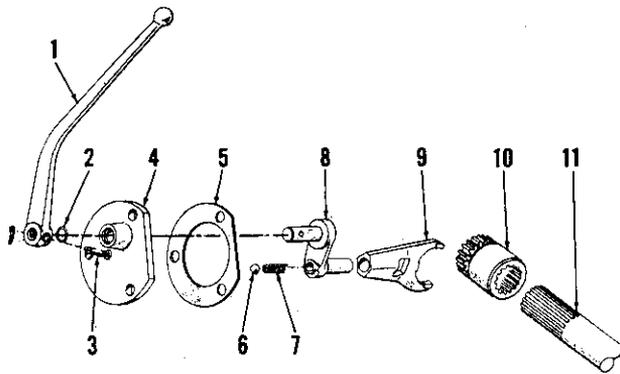
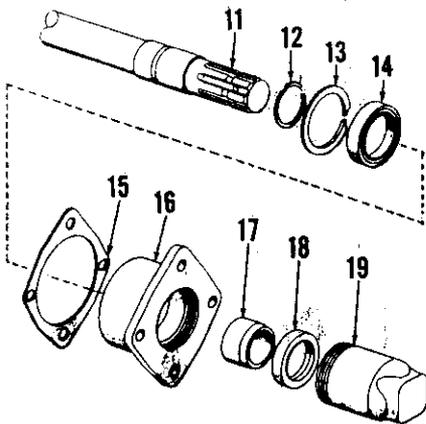
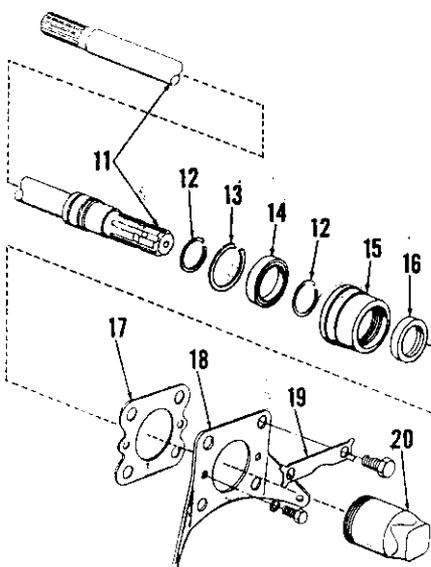

Fig. 352—Exploded view of PTO shift unit used with 6 or 8-speed transmissions with "live" or transmission type PTO options.
Fig. 353—Exploded view of PTO output shaft assembly for model 2000, 3000 and 4110 L.C.G. tractors.
Fig. 354—Exploded view of PTO output shaft assembly for model 4000 (except 4110 L.C.G.) tractors.
320. Power take-off is driven from the PTO countershaft which rotates inside hollow transmission countershaft. On all models with single clutch, power flow to both transmission and power take-off is stopped when transmission clutch is disengaged. On 3000 models with dual clutch, power flow to transmission is stopped when clutch pedal is depressed about half-way and power flow to both transmission and power take-off is stopped when clutch pedal is fully depressed. Refer to Fig. 352 for exploded view of shifter mechanism, to Fig. 354 for exploded view of model 4000 output shaft assembly and to Fig. 353 for exploded view of output shaft assembly for other models.
Then, unbolt retainer (16—Fig. 353) from rear axle center housing and withdraw the shaft, bearing and retainer assembly. Overhaul unit as outlined in paragraph 317 for 4-speed transmission equipped models.
**NOTE:** If the output shaft has been removed with the PTO shift mechanism in neutral position, or if the PTO shift lever has been moved while PTO output shaft is removed, the shift collar (10—Fig. 352) can fall out of shift fork (9). In either event, remove the shift cover and lever assembly as outlined in paragraph 323 and place collar on PTO countershaft in transmission before reinstalling output shaft.
Reinstall the PTO output shaft, bearing and retainer assembly with new gasket (15—Fig. 353) and tighten retaining cap screws to a torque of 35-47 Ft.-Lbs. Refill rear axle center housing with proper lubricant.
322. To remove PTO output shaft assembly on model 4000 tractor, proceed as follows: Drain lubricant from rear axle center housing and disconnect hydraulic lift lower link sway chains from retainer plate (18—Fig. 354). Be sure that the PTO shift lever is in engaged position, then unbolt and remove retainer plate from rear axle center housing and withdraw the output shaft, bearing and bearing support assembly.
To reassemble, install front snap ring on shaft and drive or press bearing tightly against snap ring and install the rear snap ring. Install new seal in support with sealing lip forward, lubricate seal and install shaft and bearing assembly in support. Install bearing retaining snap ring in front end of support, then install the assembly in rear axle center housing. Note: If output shaft was removed with PTO shift lever in disengaged position or if shift lever was moved while PTO output shaft was removed, remove shift lever and cover assembly as outlined in paragraph 323 and place shift collar (10—Fig. 352) on PTO countershaft in transmission before installing output shaft.
With output shaft assembly installed, reinstall retainer plate with new gasket (17—Fig. 354), tighten the large cap screws to a torque of 170-200 Ft.-Lbs. and the small cap screws to a torque of 35-47 Ft.-Lbs. Refill rear axle center housing and hydraulic system with proper lubricant.
323. **R&R AND OVERHAUL SHIFT MECHANISM.** First, drain rear axle center housing lubricant to below level of shift cover (4—Fig. 352) and remove the left step plate (foot rest). Then, unbolt cover from rear axle center housing and remove the cover, shift lever and shift fork assembly.
On models 2000, 3000 and 4110 L.C.G. with single speed PTO, the removed unit is similar to that used with other transmissions; refer to Fig. 351 or 353 for exploded view of unit and to paragraph 317 for service information. On model 4100 (except 4110 L.C.G.), the single speed PTO output shaft assembly is similar to that used with 8-speed transmission; refer to Fig. 354 for exploded view of unit and to paragraph 322 for service information.